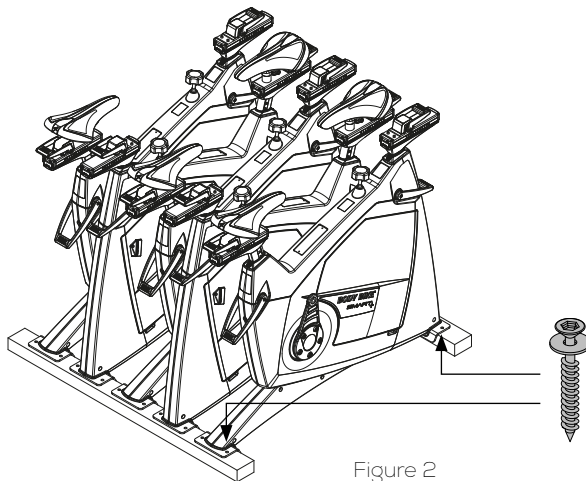

Figure 2
- 4) Loosen the two screws mounting the first cycle to the pallet. See figure 2